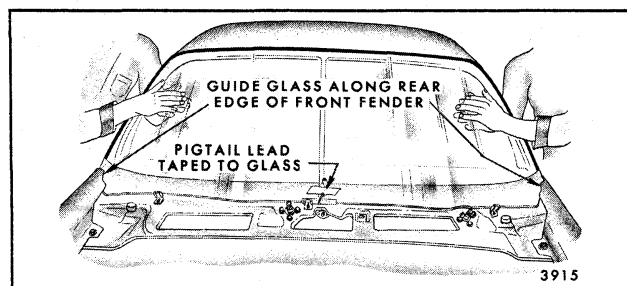

Fig. 11-8-Glass Installation
8. With aid of helper, lift glass into window opening. On back window installations it will be necessary to use suction cups to position glass in opening. Windshield glass can be positioned without aid of carrying devices. As shown in Figure 11-8, carry glass with one hand on inside of glass and one hand on outside. At window opening, put glass in horizontal position. While one man holds glass in this position, second man can reach one arm around body pillar and supports glass while other man assumes same position. Quarter window glass can be installed in same manner.
15. With glass centered at opening, place glass on lower supports and use tape guides applied in step 9 to carefully place glass in proper position. On windshield installation, guide lower outer surface of glass along rear edge of front fenders to avoid smearing fresh adhesive material on instrument panel (Fig. 11-8). Make certain glass is properly aligned to tape guides on pillars, and positioned on lower metal supports. Apply light hand pressure to "wet-out" adhesive material and obtain bond to body opening. Using small disposable brush or flat-bladed tool, paddle material around edge of glass to ensure watertight seal. If necessary, paddle additional material to fill voids in seal. On windshields equipped with embedded antenna, paddle additional material at edges of butyl strip, if required, using care to avoid area near antenna lead pigtail.